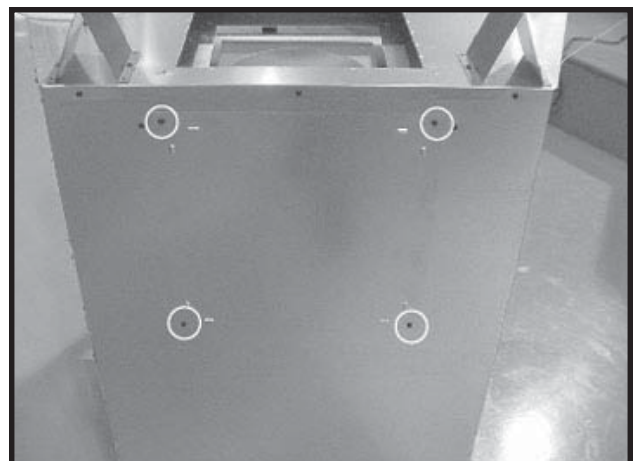

Figure 10 - Outer Shell Cover
- f. Remove the four screws holding the outer shell cover. See Figure 10. Remove the outer shell cover and set aside.